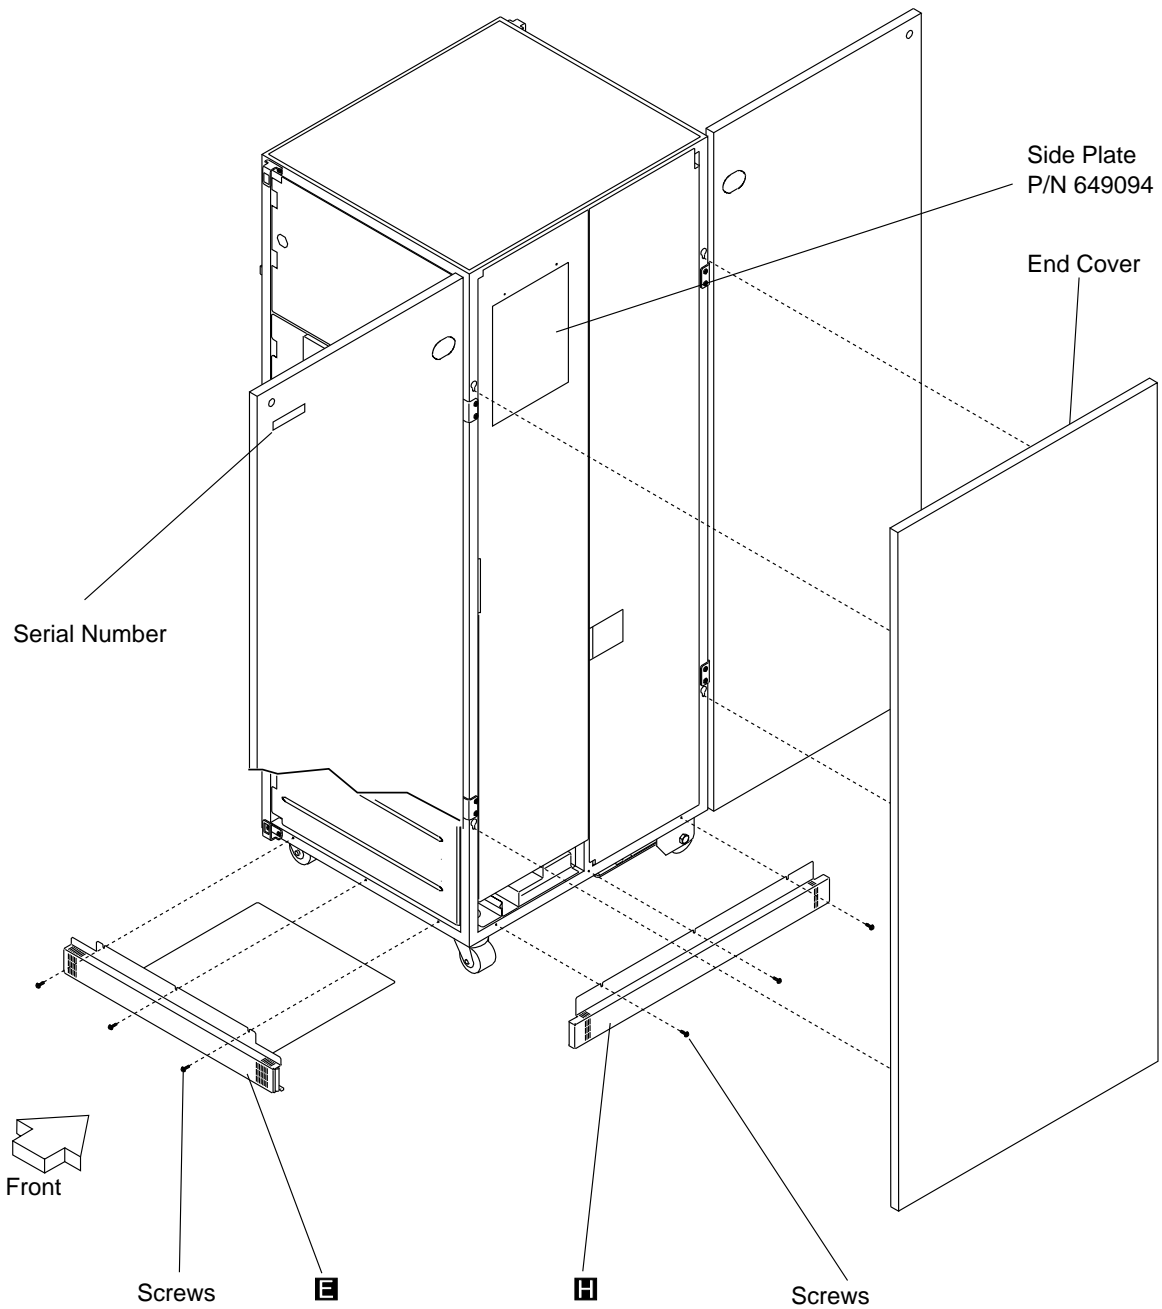
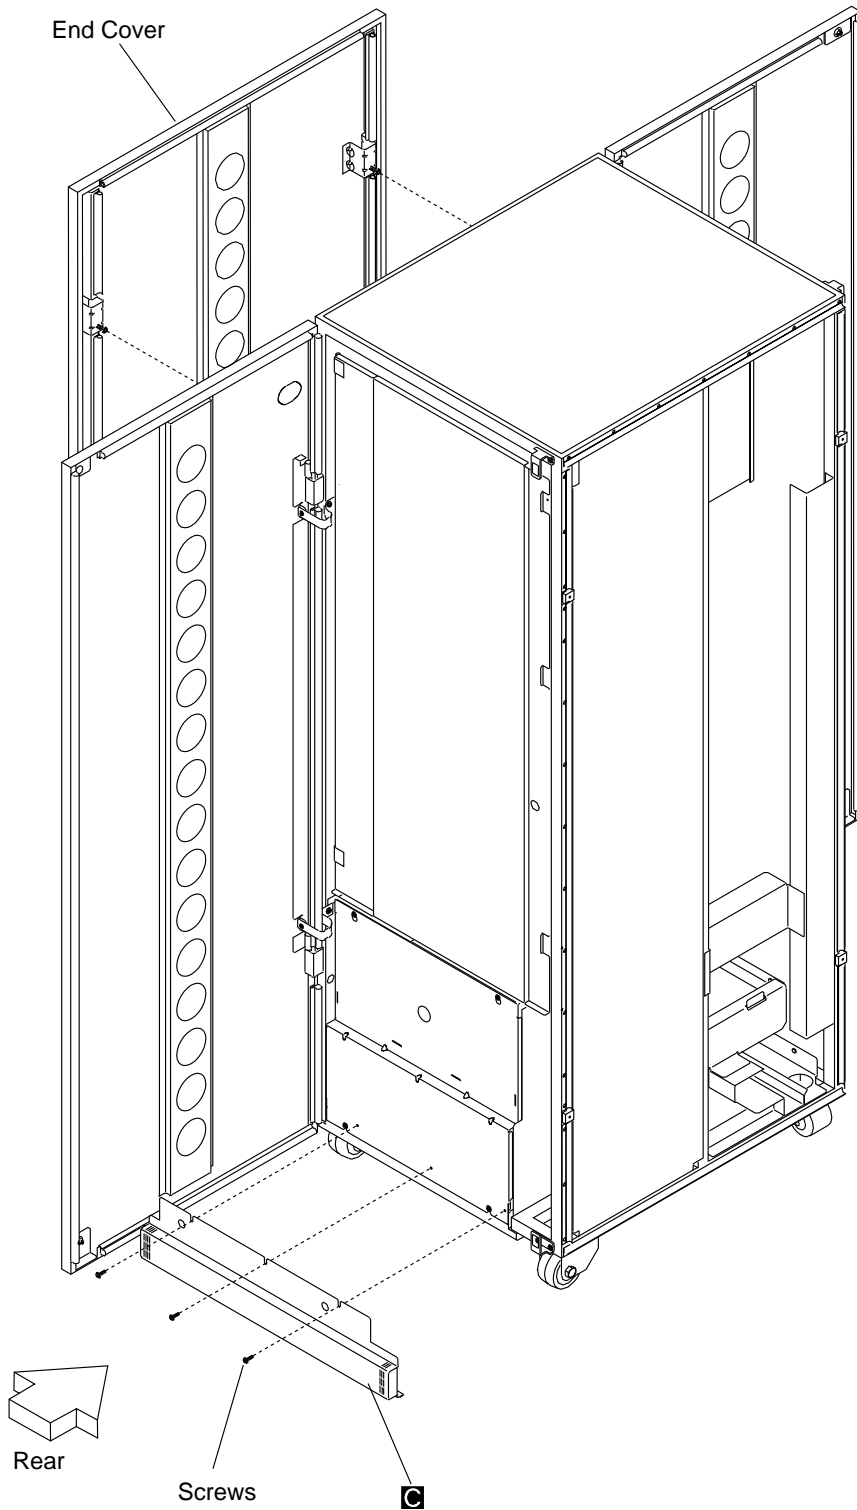

Figure 6-3. Ground Brackets on a 3746-A Expansion Unit (Front View)
Figure 6-4. Ground Bracket on a 3746-A Expansion Unit (Rear View)
- a. \_\_\_\_ Refer to Figure 6-3 on page 6-5 and Figure 6-4 on page 6-6, and read the text at the top of the pages.